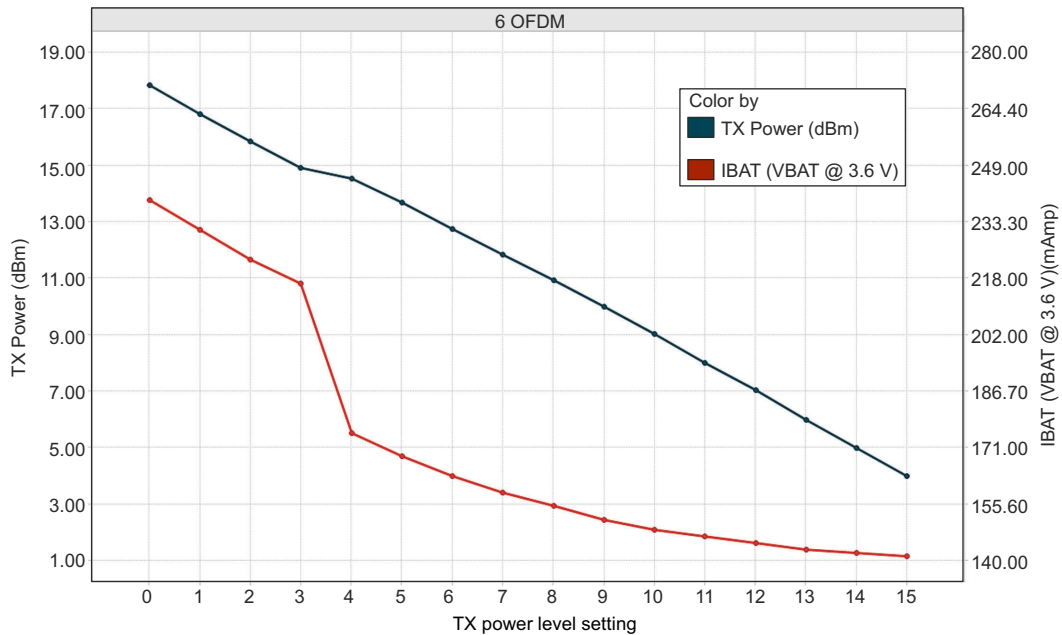
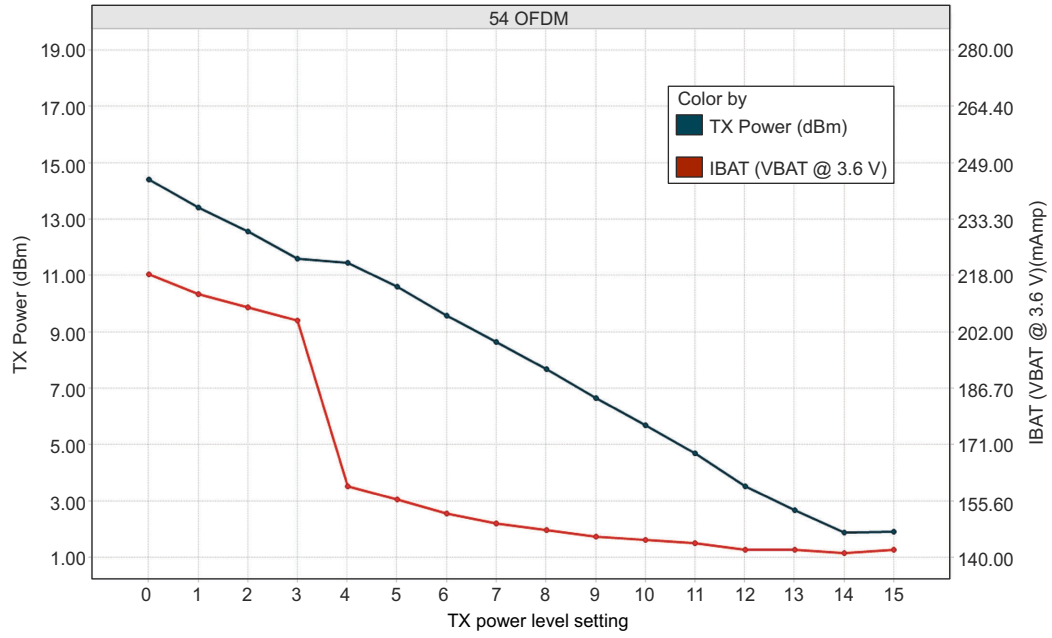

Figure 7-2. TX Power and IBAT vs TX Power Level Settings (6 OFDM)
Figure 7-3. TX Power and IBAT vs TX Power Level Settings (54 OFDM)
- TX power level = 0 implies maximum power (see Figure 7-1, Figure 7-2, and Figure 7-3). TX power level = 4 implies output power backed off approximately 4 dB.